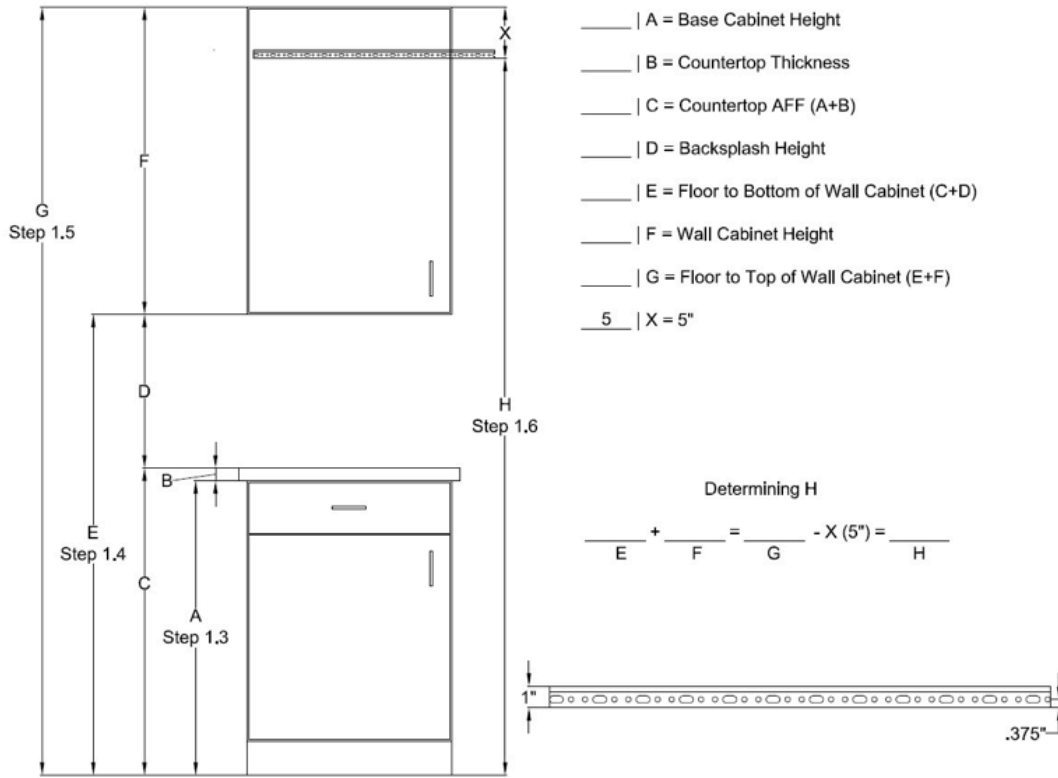

FIGURE 1
- 1.3 Measure up from the high value entered in Figure 1, Dimension A, and mark a horizontal line along your entire cabinet run. This marks the top of the base cabinets. If you are installing cabinets prior to the finished floor being installed, check with the GC and adjust measurements to accommodate the thickness of the floor material.